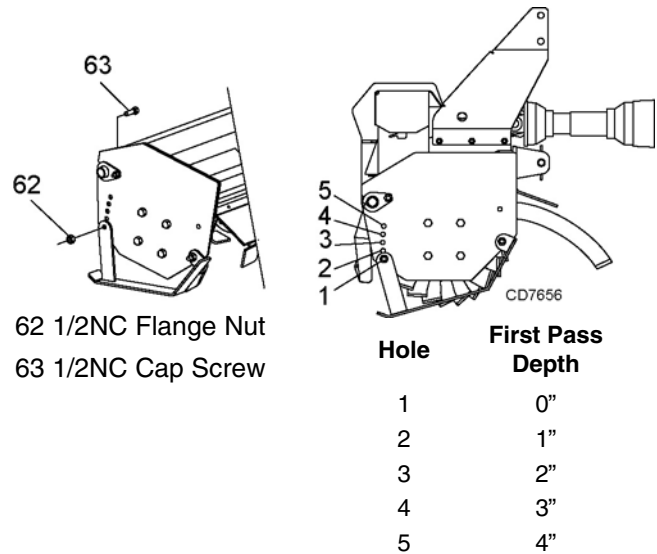

Figure 6. Tiller Depth Adjustment
- Loosen the 1/2" cap screws that act as the front pivots to the skid shoes. Remove the 1/2" cap screws (63) that hold the rear of the skid shoes to the tiller frame.
- Adjust the skid shoe to the desired tilling depth (Figure 6). Reinstall the cap screws in the rear of the skid shoe and tighten all cap screws.